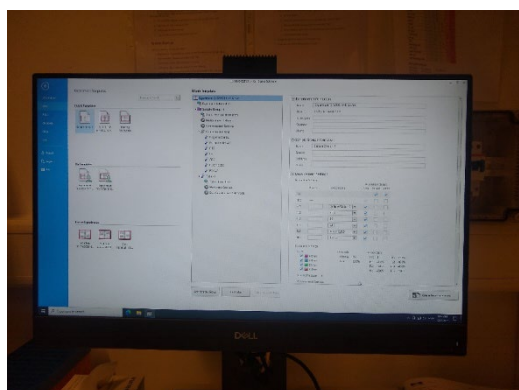

Figure 33
9. You can now either use a template or create a new experiment. These templates can be found in the left panels of Figure 33. If creating a new experiment, change the name of the experiment (Figure 34a) and measurement settings (Figure 34b-c). You can fill out the rest of the fields as well but it is not necessary. In the measurement settings, select area, height, and width for both BSC and FSC, and select area for each fluorescence you will use. Unselect everything you will not use. For the fluorescence, there is a table on the wall which tells you which fluorescence uses which channel. Press "Create Experiment" in the bottom-right corner of the page (Figure 34e).